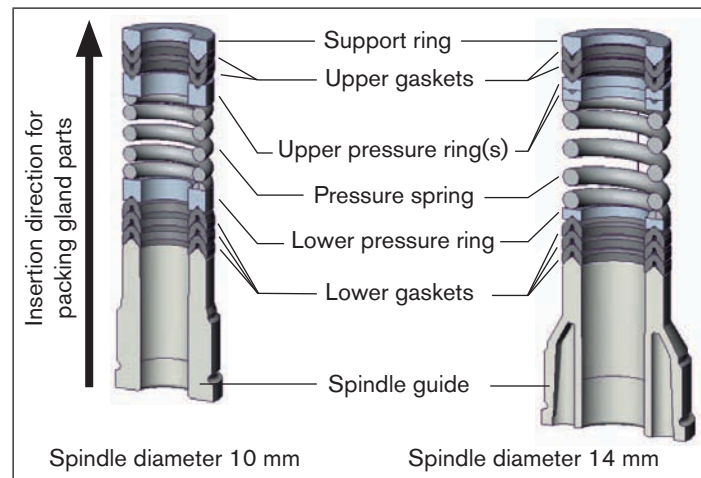

Fig. 25: Seal set for packing gland
The seal set for the packing gland contains (see "Fig. 25")
- Connect the individual parts to the spindle in the specified direction and sequence (as illustrated in „Fig. 25: Seal set for packing gland“).